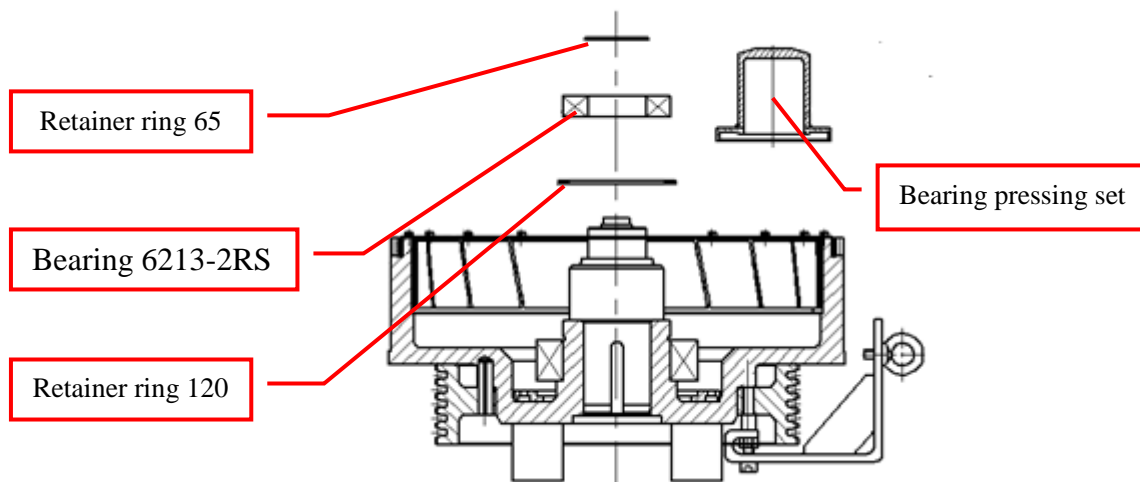

Figure 65: Secure the Bearing 6213-2RS
- Use retainer ring pliers to install retainer ring 120 into ring groove of the brake wheel, above the bearing 23024CA-2CS2. Put the bearing 6213-2RS on the spindle, install the bearing pressing set, and use a rubber mallet tap into place. Use retainer pliers to install retainer ring 65 into ring groove of the spindle, securing the bearing 6213-2RS. See Figure 65.